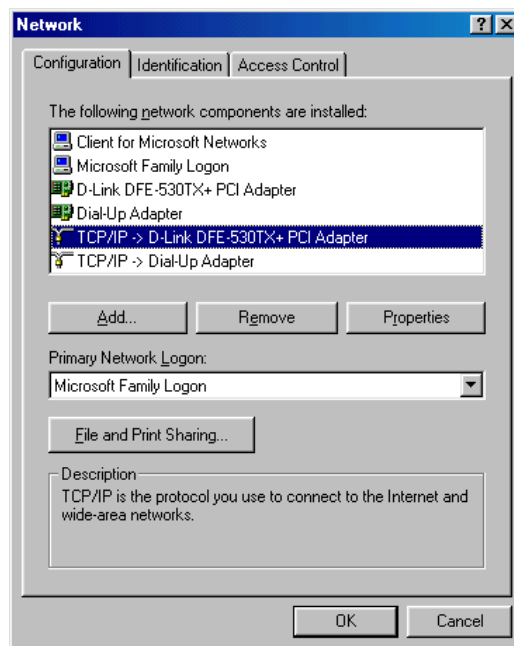

Figure 1. The Network dialog box.
3. Highlight the TCP/IP component for the network adapter that is connected to your Model 401 device (Figure 1) and click the "Properties" button.